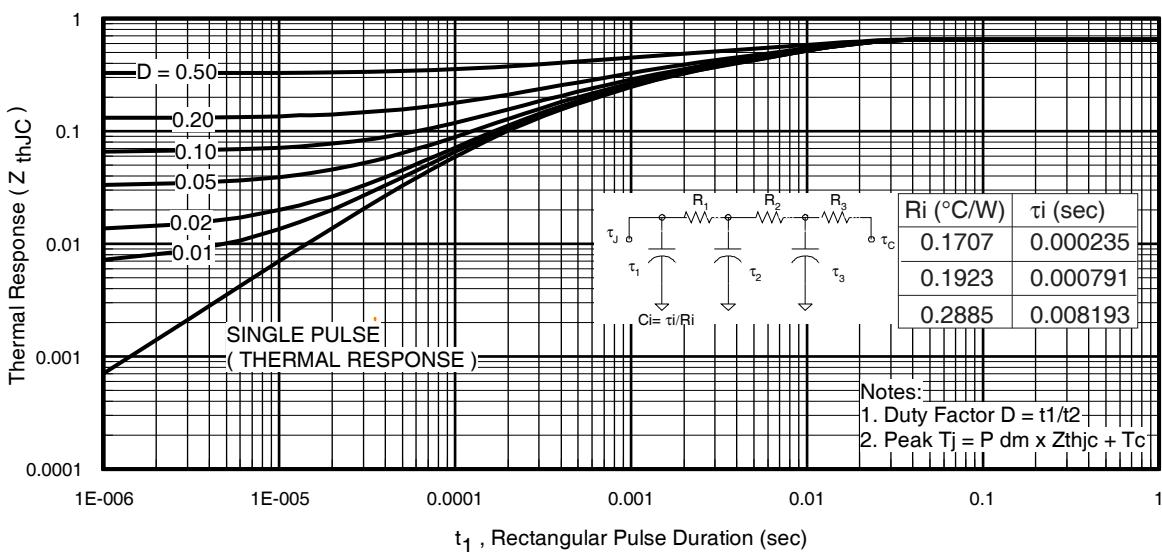
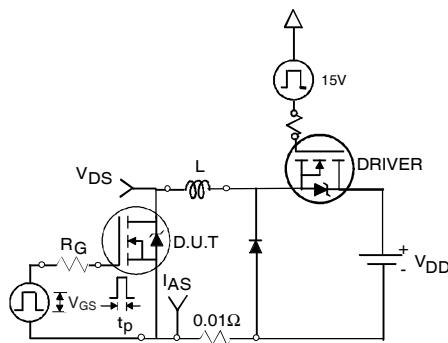

Fig 11. Maximum Effective Transient Thermal Impedance, Junction-to-Case
Fig 12a. Unclamped Inductive Test Circuit
- ① Repetitive rating; pulse width limited by max. junction temperature. (See fig. 11).
- ② Limited by $T_{J\max}$, starting $T_J = 25^\circ\text{C}$, $L=0.064\text{mH}$, $R_G = 25\Omega$, $I_{AS} = 88A$, $V_{GS} = 10V$. Part not recommended for use above this value.
- ③ Pulse width $\leq 1.0\text{ms}$; duty cycle $\leq 2\%$.
- ④ $C_{oss \text{ eff.}}$ is a fixed capacitance that gives the same charging time as C_{oss} while V_{DS} is rising from 0 to 80% V_{DSS} .
- ⑤ Limited by $T_{J\max}$, see Fig.12a, 12b, 15, 16 for typical repetitive avalanche performance.
- ⑥ This value determined from sample failure population. 100% tested to this value in production.
- ⑦ This is applied to D²Pak, when mounted on 1" square PCB (FR-4 or G-10 Material). For recommended footprint and soldering techniques refer to application note #AN-994.
- ⑧ R_θ is measured at T_J of approximately 90°C .
- ⑨ Solder mounted on IMS substrate.
3. Equation below based on circuit and waveforms shown in Figures 12a, 12b.
- $Z_{thJC}(D, t_{av})$ = Transient thermal resistance, see figure 11)